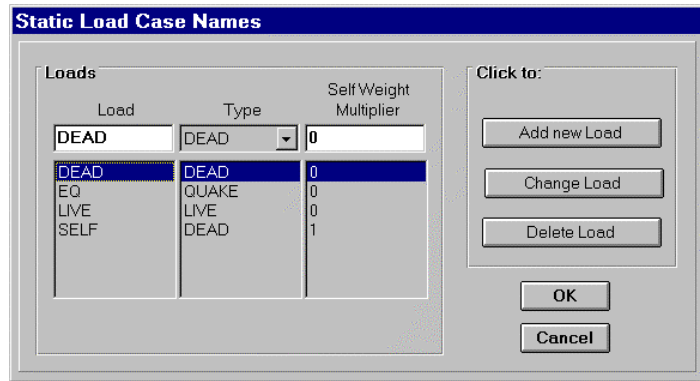

Figure 4-2 Static Load Cases
1. In Tutorial 1 you assigned a set of point and uniform loads as **DEAD** load and included the member self weight. (See Figure 4-2 for the new **Static Loads Case** list.) In this tutorial we will assign a load case for the live load and one for the self weight of the members. Including a load case for the self weight of the structure is a good way to keep track of the structural weight for design optimization purposes. The loads are separated into dead, live and lateral earthquake load cases so the design part of SAP2000 can automatically generate load combinations.